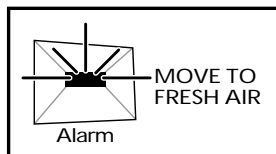

Figure 9
- The red light flashing, accompanied by the alarm "chirp", indicates the batteries need to be replaced, or the unit has malfunctioned (see figure 9).